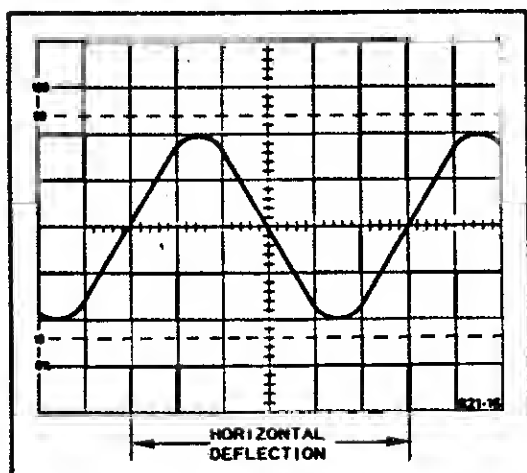

Fig 5-6
a. To measure the time of each cycle of the waveform shown in Fig 5-6 set the oscilloscope up as follows.
For the waveform shown in Fig 5-6 the Horiz Defl = 6.1 div, assume the SEC/DIV is 2msec and magnifier to x1
Using the waveform in Fig 5-6 and the example on 5.9f. which determined a period of 12.2msec